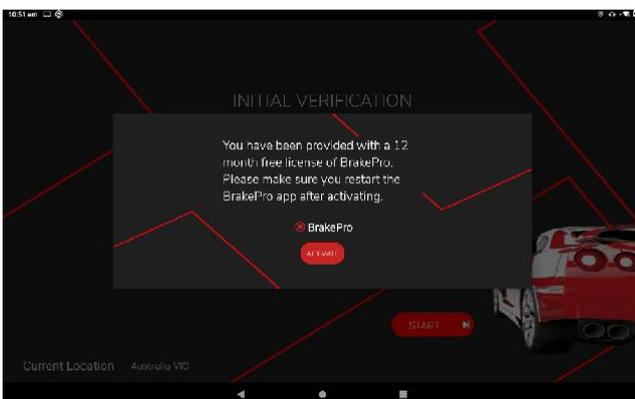
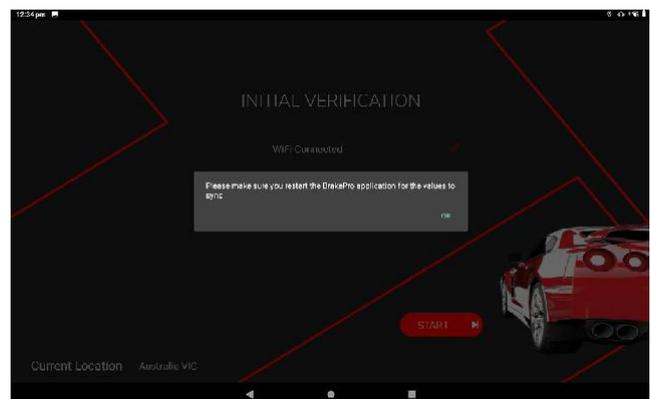

Figure 10
Figure 11
Step 7: Press “Activate” to apply the provided 12-month license of Brake Pro (Figure 10). Ensure you restart the Brake Pro app after activating the license (Figure 11).